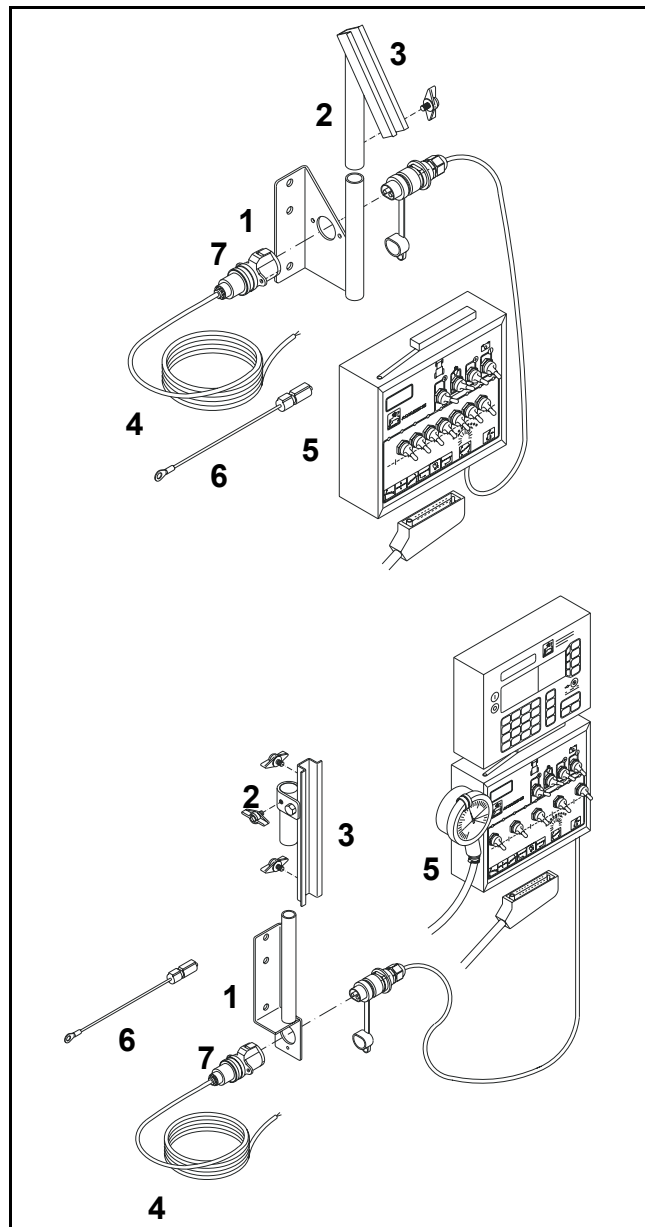

Fig. 22
Attach the main console (Fig. 22/1) for retaining the bracket (Fig. 22/2) with top hat profile rail (Fig. 22/3) and battery cable (Fig. 22/4) inside the tractor cab so that the switch box (Fig. 22/5) will be within view and reach of the tractor operator.
- Connect battery cable (Fig. 22/4) directly to the tractor battery (12 V) and install cable.
- Connect the 16A fuse holder (Fig. 22/6) to the brown wire and connect to plus (+) pole of the tractor battery.
- Fit 3-pin plug socket (Fig. 22/7) to console (Fig. 22/1).